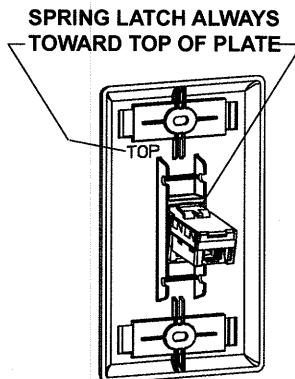

FIGURE 1
1. INSTALL JACKS OR SF CONNECTORS INTO PLATE. (SEE FIGURE 1)